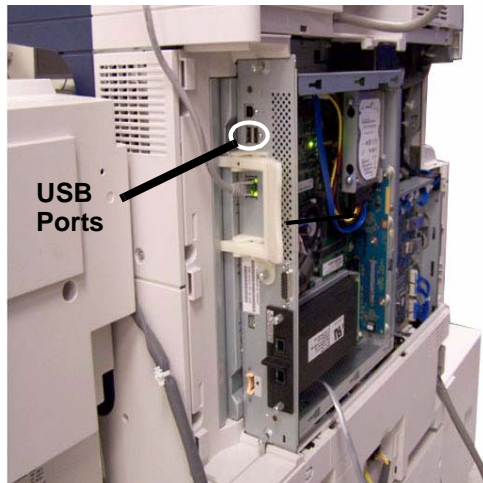

Figure 1 USB Ports
6. Connect the USB Flash Drive to one of the USB Ports on the Control Unit (Figure 1).